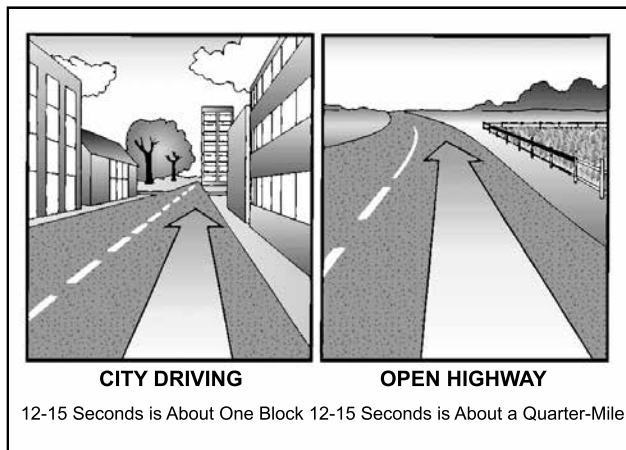

Figure 2.6
**How far Ahead to Look.** Most good drivers look at least 12 to 15 seconds ahead. That means looking ahead the distance you will travel in 12 to 15 seconds. At lower speeds, that's about one block. At highway speeds it is about a quarter of a mile. If you are not looking that far ahead, you may have to stop too quickly or make quick lane changes. Looking 12 to 15 seconds ahead does not mean not paying attention to things that are closer. Good drivers shift their attention back and forth, near and far. Figure 2.6 illustrates how far to look ahead.